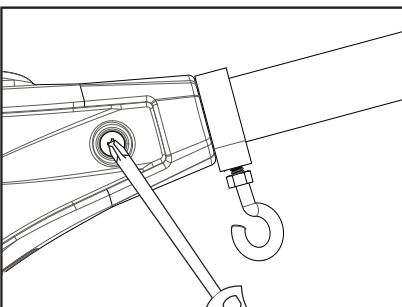

Figure 6
5. With a Phillips head screw driver, thread bolt into the nylon locknut from step 4. Tighten bolt until the end of the bolt is flush with the top of the nut. (Figure 6)